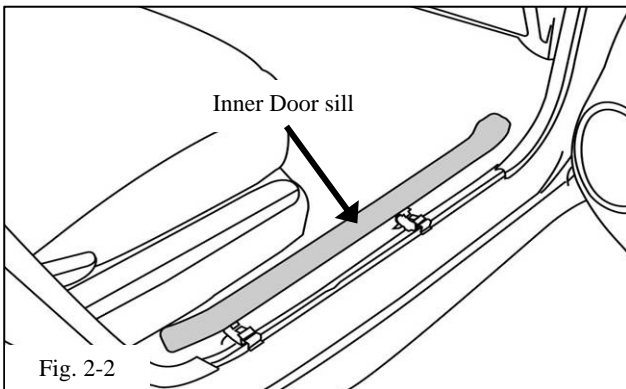

Fig. 2-2
- (b) Remove the front left and front right inner door sill panels. (Fig. 2-2)